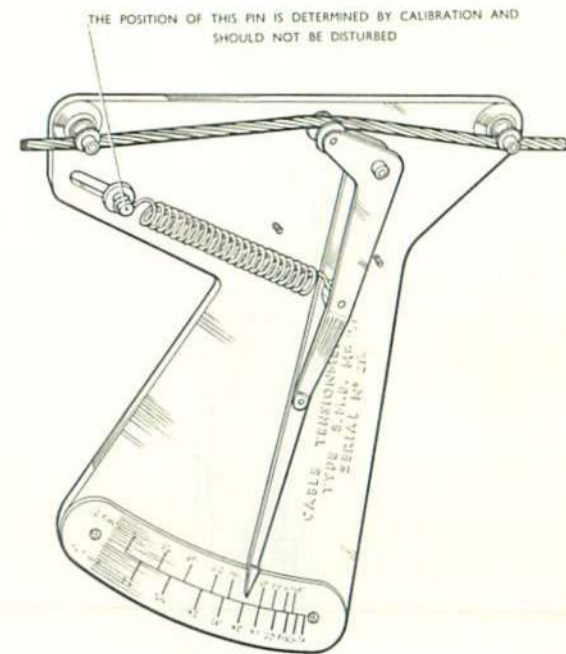

Fig. 2 Application of tensiometer
(4) Couple up and tension the cables. The positions of the various turnbuckles are shown in Fig. 10. Apply a Mk. 4 tensionmeter (Fig. 2) to the cables in the flap shroud on each side, and check that the tension on the 20 cwt. scale is 70 lb. \pm 10 lb. When fitting a new cable a tolerance of \pm 20 lb. is allowed up to the first inspection.